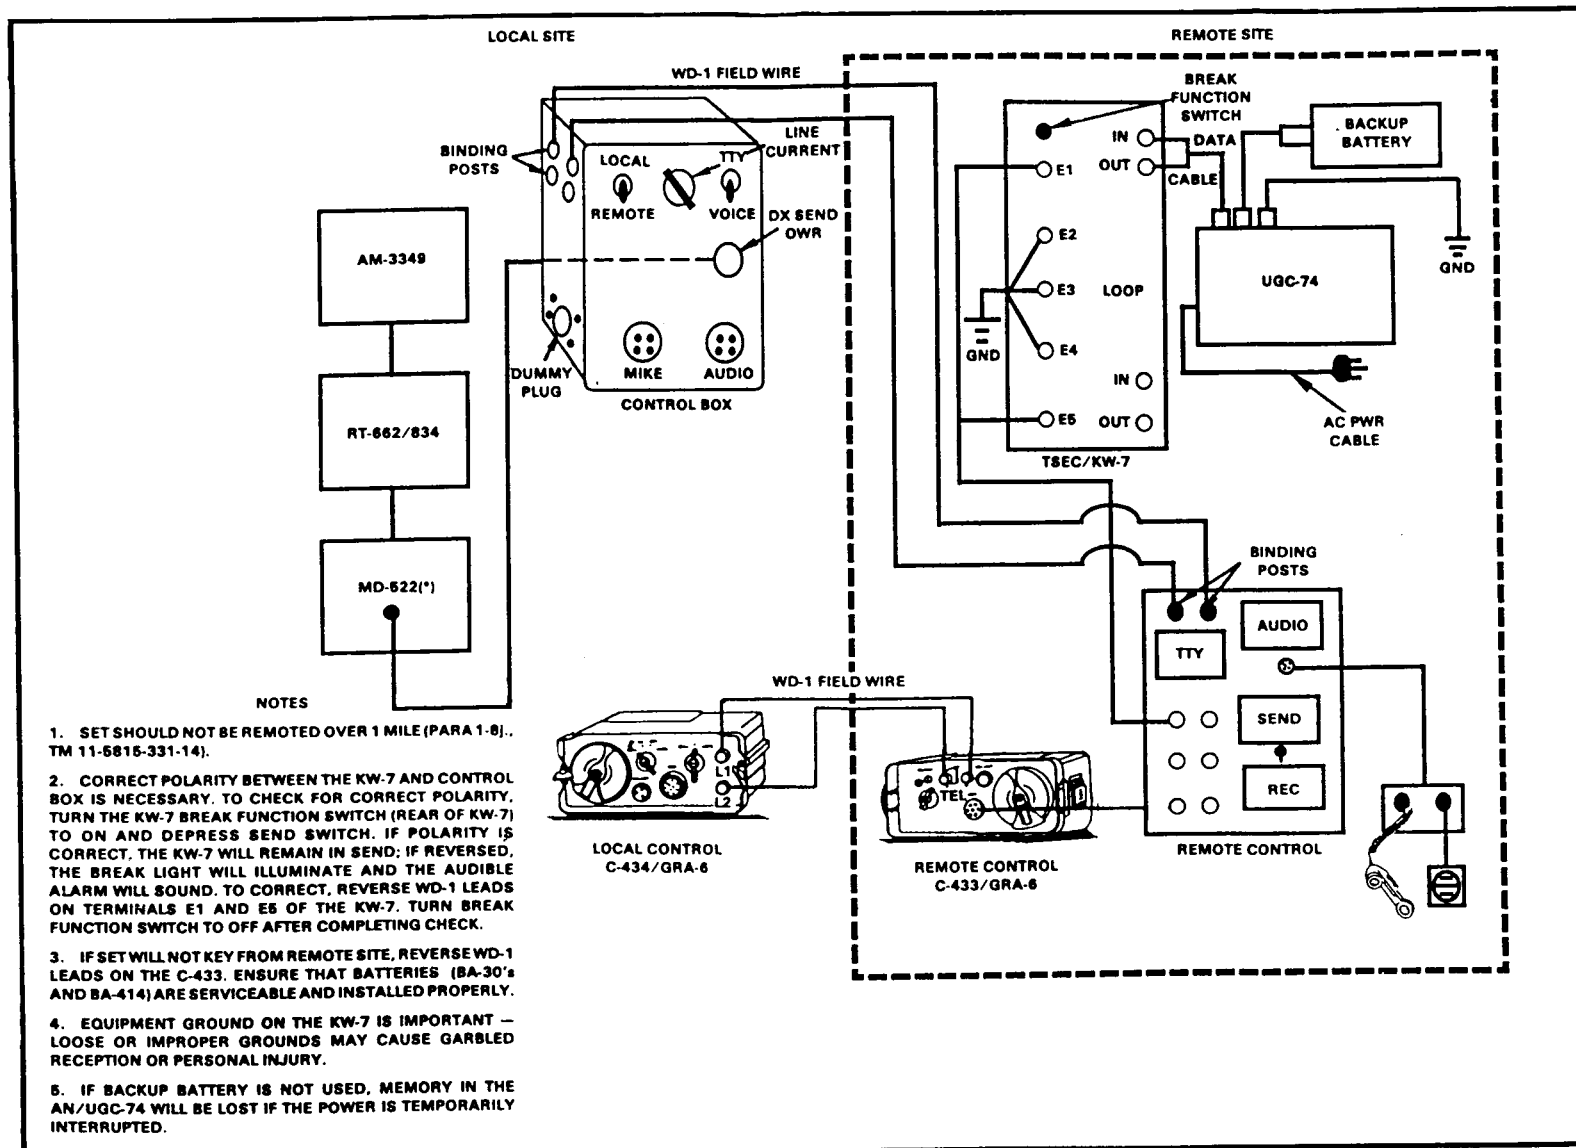

Figure 1-1. Simplified remote diagram for Radio Teletypewriter Set AN/VSC-2 using AN/UGC-74 and TSEC/KW-7.
- Connect battery backup cable and battery, if available. (See note 5 on installation diagram in Figure 1-1.)